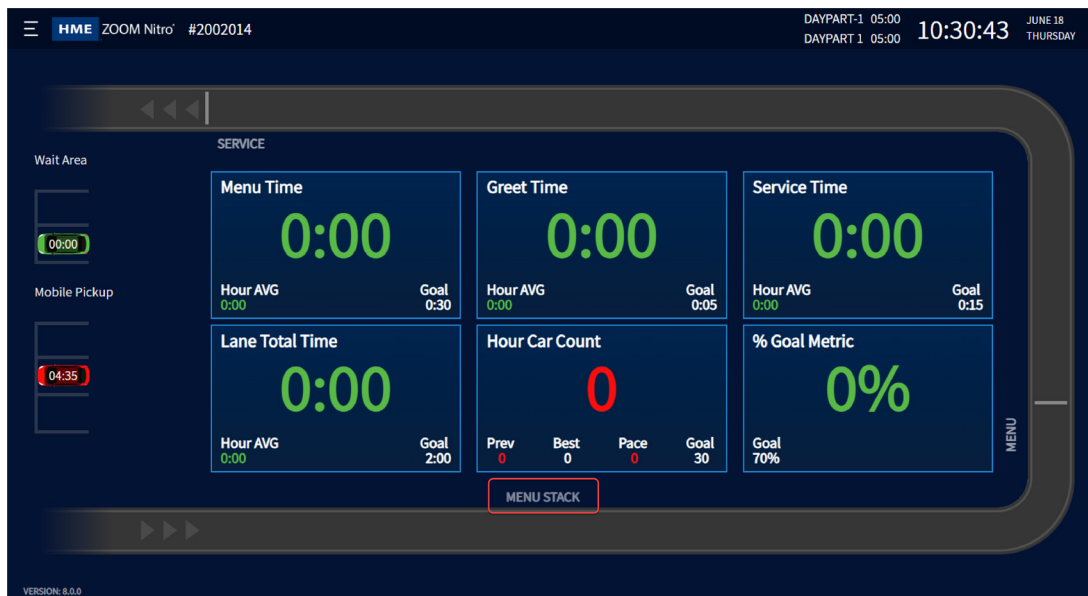

Fig. 7.4
2. Fig. 7.4 shows how Menu Stack appears on the dashboard.